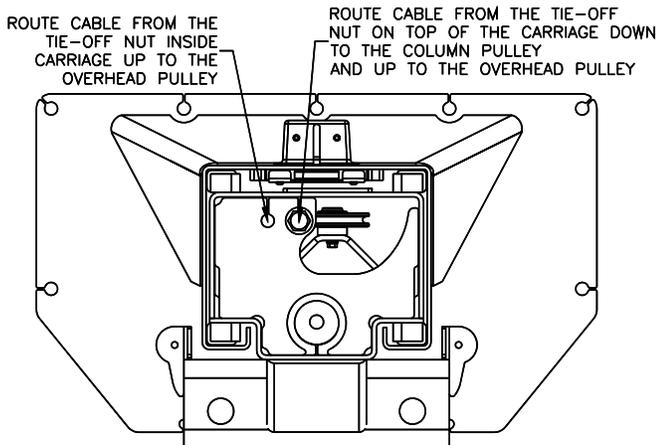

Fig. 9 – Cable Assembly/Cable Extensions
18) Route the synchronizer cables as shown in Fig. 9. Routing the cable from the inner hole location on the top of the carriage down to the column pulley and up to the overhead pulley. From the other hole location rout the cable up to the overhead pulley.